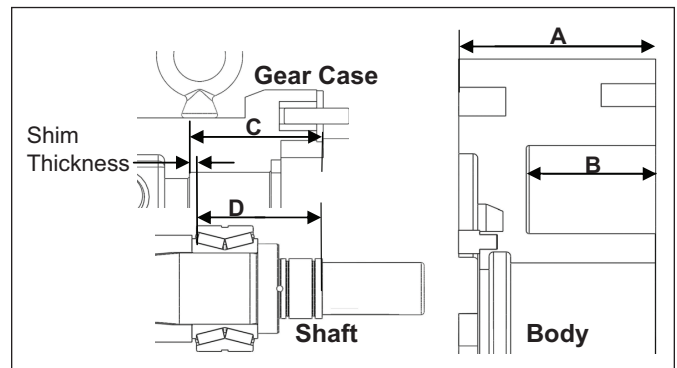

Figure 47. Calculating Shims
3. Shims located on the shaft behind the front bearing control the backface clearance of the pump; the space between the body and the rotor. If neither the shafts or bearings are being replaced, use the shims (if properly marked) removed at disassembly and reuse making sure they are installed in the correct bores. If replacing shafts or bearings, a process of calculating the required shims is necessary. Use *Figure 47* and the following equation to calculate. To find the correct backface clearance see *Table 10, page 41*.